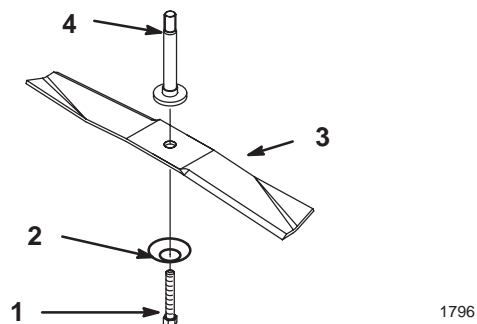

Figure 28
1. Install the blade, curved washer, and blade bolt (Fig. 28).